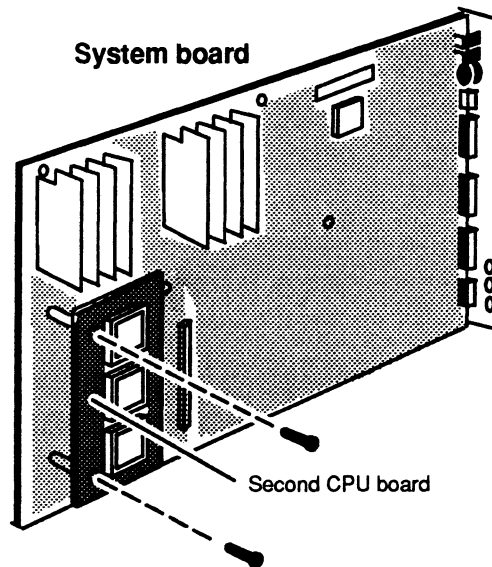

Figure 4–2 Removing the Screws Securing the Second CPU Board to the System Board
1. Remove the two screws, shown in Figure 4–2, that secure the second CPU board to the system board.
2. Separate the interboard connector on the back of the second CPU board from the interboard connector on the system board as shown in Figure 4–3.